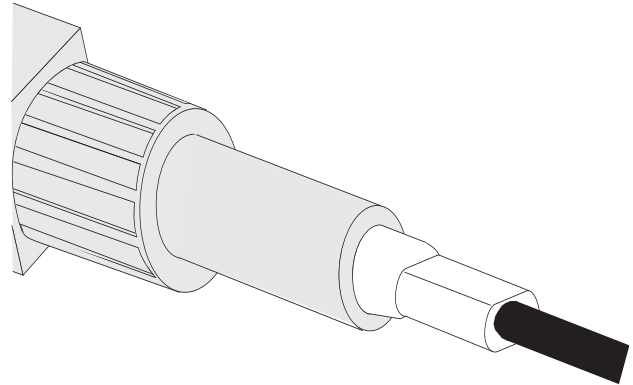

Figure 3
4.3 A correctly made crimp is shown in Figure 3.